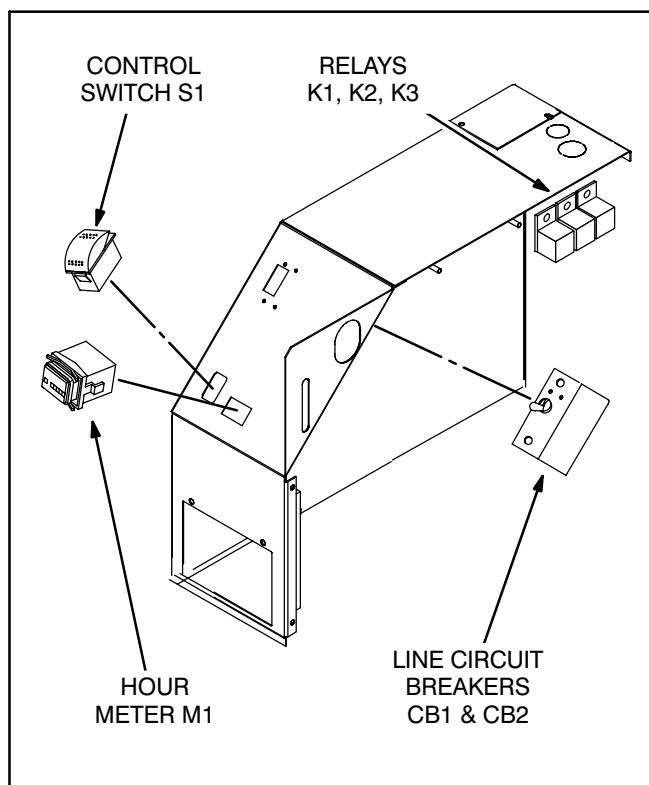
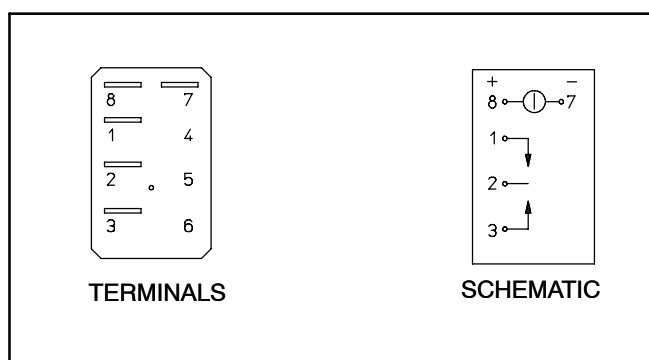

FIGURE 11-3. CONTROL COMPONENTS
FIGURE 11-4. CONTROL SWITCH S1
**Local Control Switch S1:** Switch S1 is mounted on the control panel (Figure 11-3). Unsnap connector **P9**, which is accessible through the front access door. Referring to Figure 11-4, replace the switch if:
The hour meter (Figure 11-3) is mounted on the control panel and is accessible for replacement through the front access door. It cannot be reset.
The line circuit breakers (Figure 11-3) are mounted on the control panel and are accessible for replacement through the front door. Disconnect all wiring and check electrical resistance across the terminals of each circuit breaker. Replace a circuit breaker that does not reset or that does not close or open as the handle is turned ON and OFF.
These relays are secured in a row above the intake resonator (Figure 11-3) and are accessible for replacement by removing the top enclosure panel. To test a relay, apply 12 VDC across terminals 85–86 (Figure 11-5). Replace the relay if 30–87a (NO) does not close or 30–87 (NC) does not open, or either does not return to its normal position when power is removed.